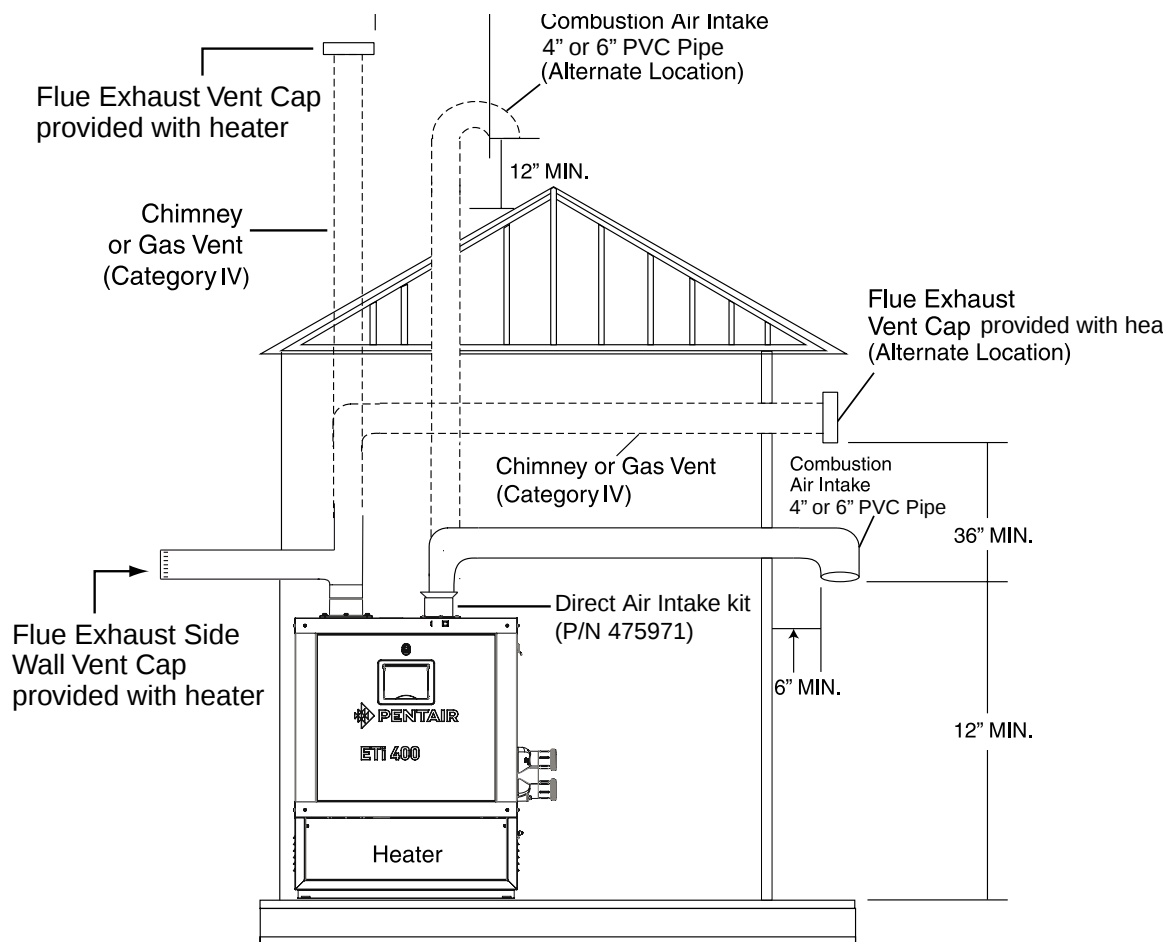
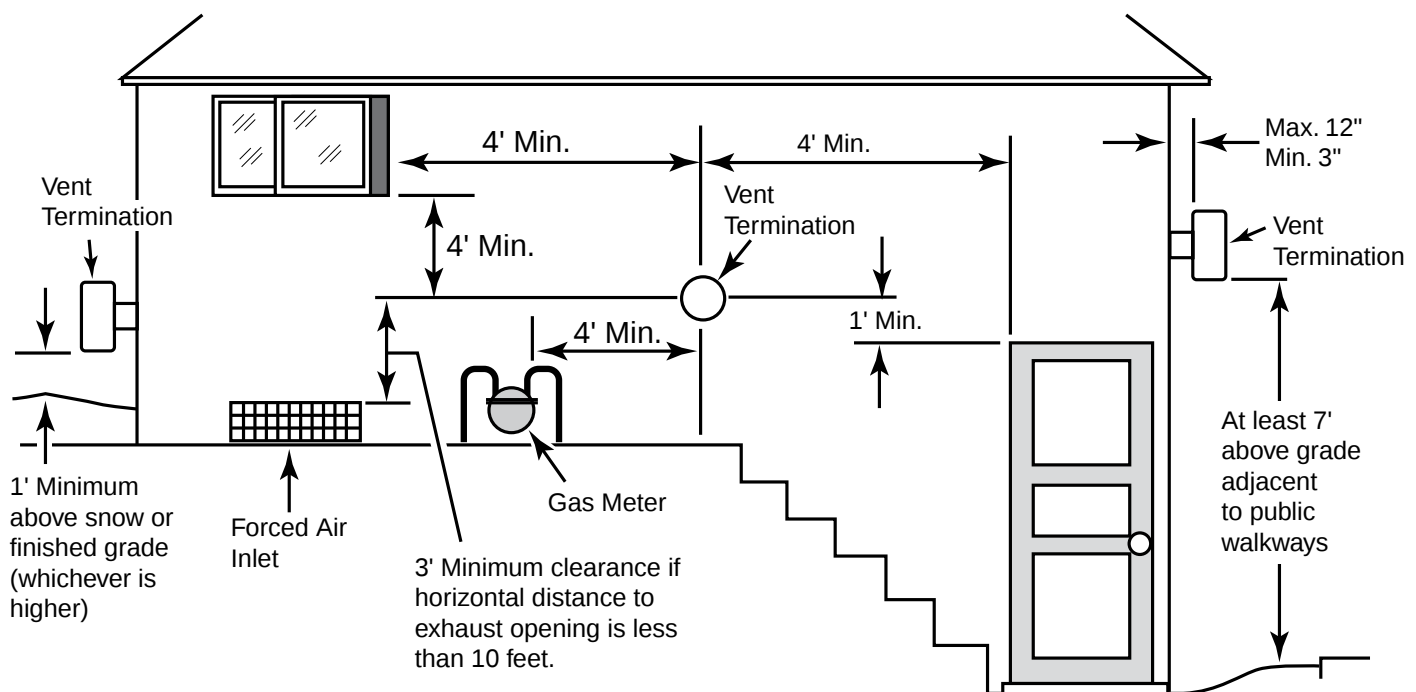
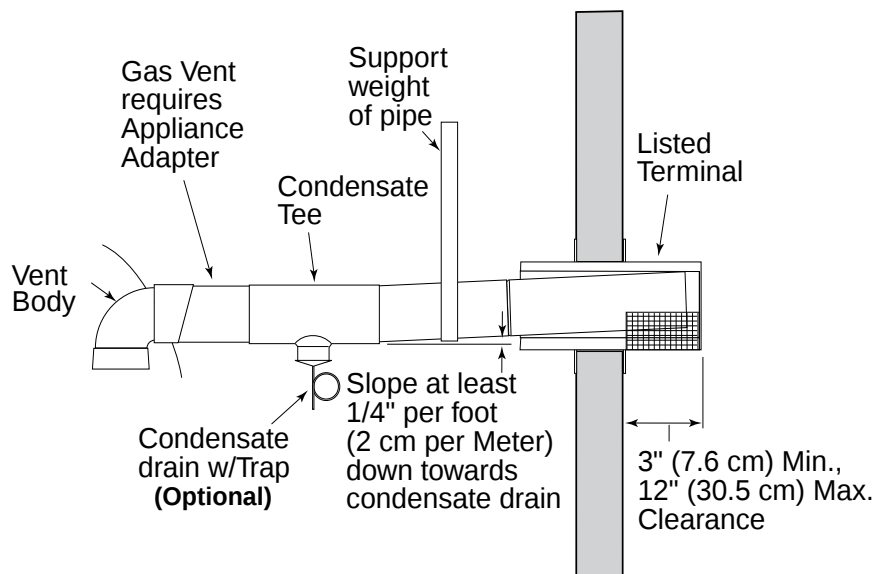
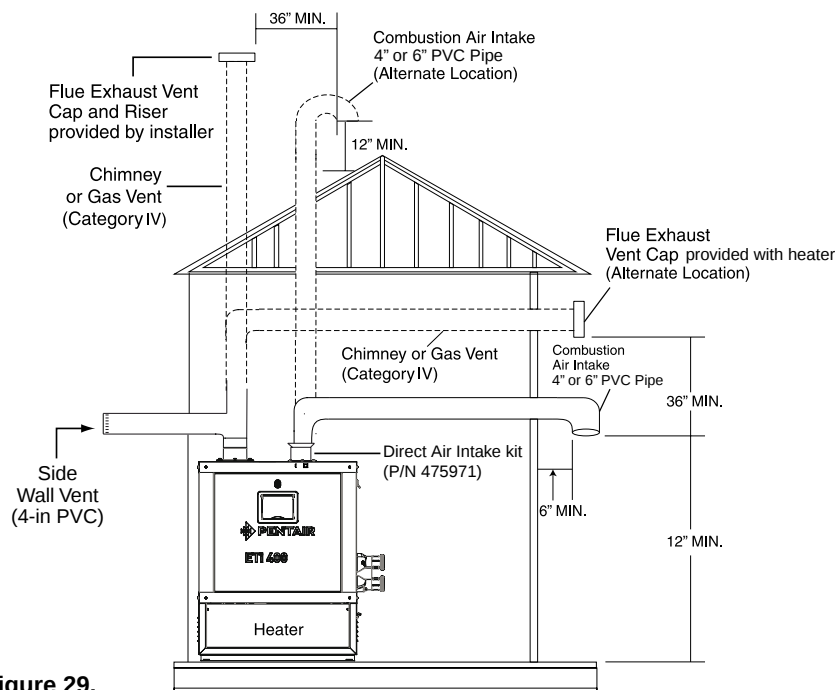

Figure 24.
Figure 27.
Figure 28.
Figure 29.
An appliance that operates with a *positive* vent static pressure and with a vent gas temperature that allows excessive condensate production in the vent, see Figure 24 (page 30) and Figure 27, page 34.
The air intake opening **MUST** be installed at least 1 ft. above the roof line or normal snow levels for free air flow. The Category IV exhaust vent termination cap must have at least 3 ft. (1 m) minimum vertical clearance from air intake duct, see Figure 24.
(See Figure 28, page 35 and Figure 29, page 36)
3. **Vent Termination:** Vertical (See Figure 27 below and Figure 29 on page 36), for height of vent termination above the roof. Use an *Approved* vent terminal specified by local and national codes and your manufacturer's instructions. A roof termination must be vertical. In Canada, the Vent Cap location shall have a minimum clearance of 4 feet (1.2M) horizontally from electric meters, gas meters, regulators, and relief openings.
The terminal must be located (U.S. – See Figure 27 on page 34):
- at least 3" and at most 12" out from the wall (see Figure 29 on page 36), following the vent manufacturer's instructions
The terminal must be located (Canada – See Figure 27 on page 34):
The flue direct vent cap MUST be mounted on the exterior of the building. The direct vent cap cannot be installed in a well or below grade. The direct vent cap must be installed at least 1' (0.3 m) above ground level and above normal snow levels, see Figure 27, page 34. The direct vent cap MUST NOT be installed with any combustion air inlet directly above a direct vent cap. This vertical spacing would allow the flue products from the direct vent cap to be pulled into the combustion air intake installed above.
It is recommended that the intake vent (see Figure 29 below) be insulated in colder climates.